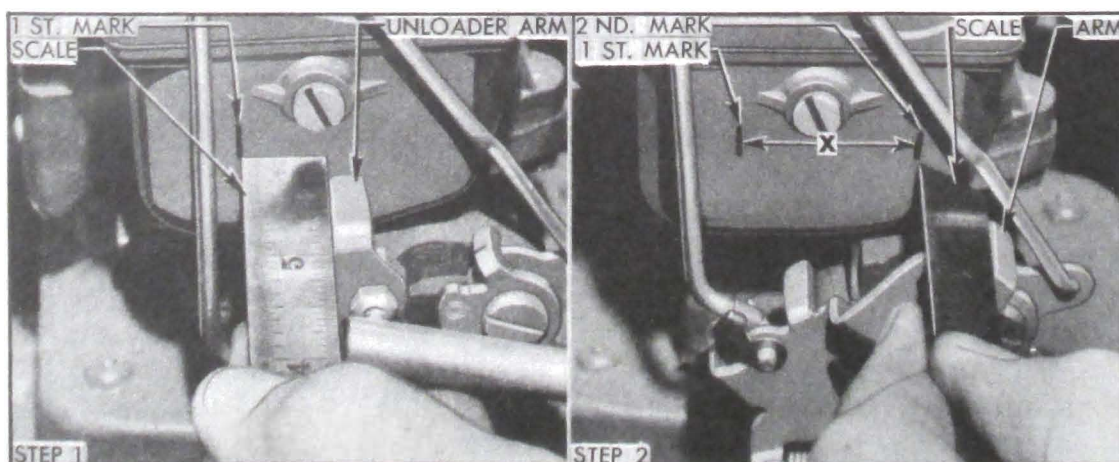

Figure 10-26—Checking Carter Accelerator Vacuum Switch Timing
opposite edge of scale. See figure 10-26, step 1.
4. With ignition switch turned on (or test lamp connected) slowly open throttle while holding scale in position against unloader arm. At point where the drive pinion just engages flywheel ring gear (or test lamp lights) make a second mark on float bowl at same edge of scale. See figure 10-26, step 2.
5. If switch is correctly timed the distance (X) between pencil marks on float bowl will be $1\frac{5}{16}$ " to $1\frac{5}{16}$ " on the *Series 50* 2-barrel carburetor, or $\frac{3}{4}$ " to $1\frac{1}{16}$ " on the *Series 70* 4-barrel carburetor.